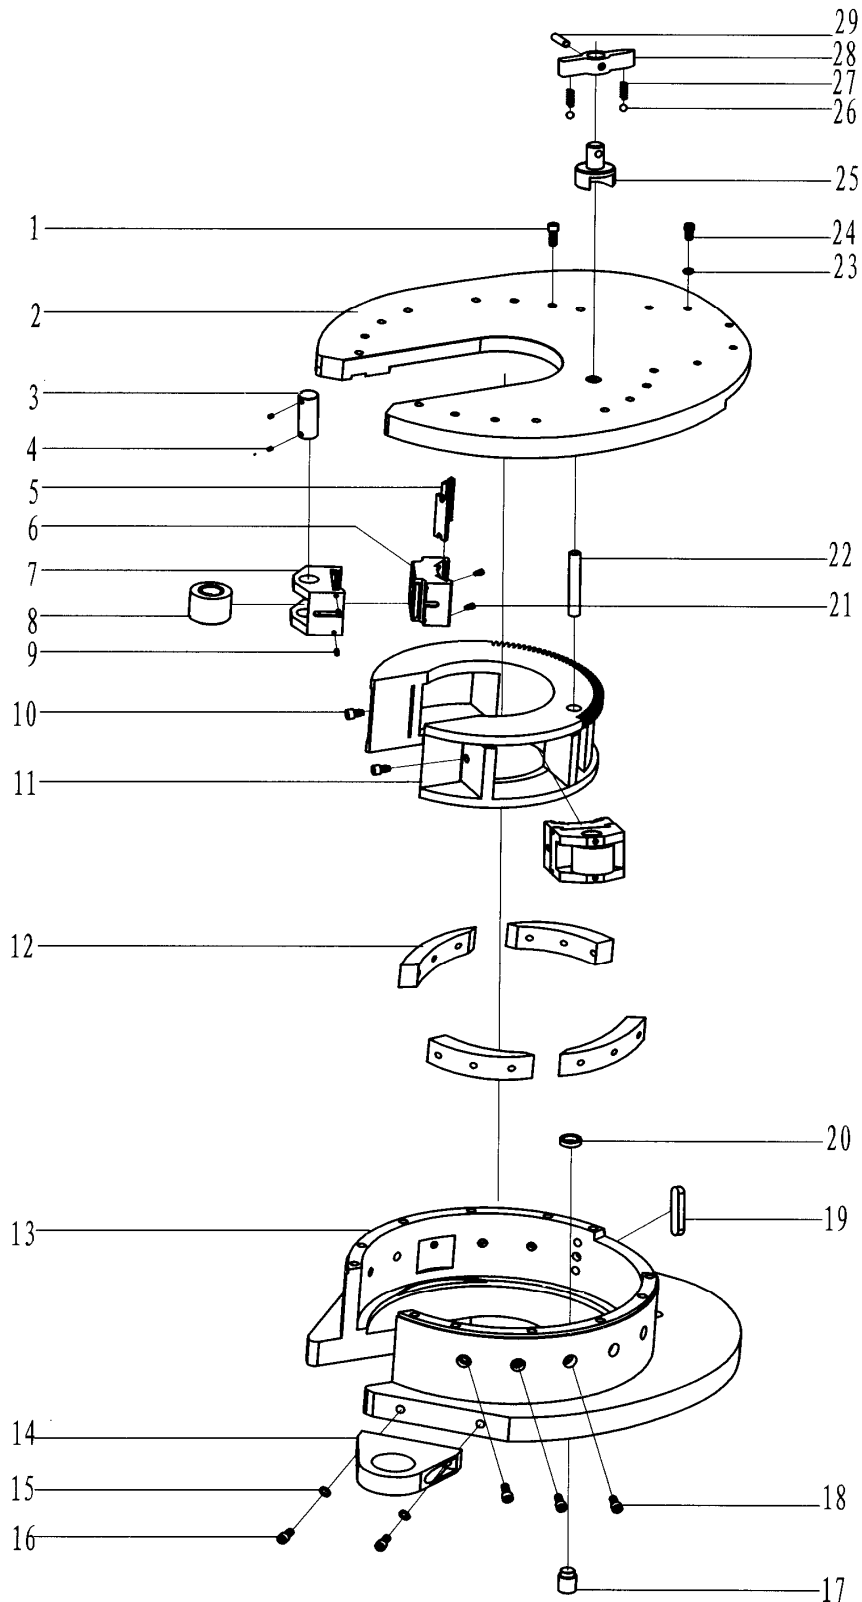

Fig10. Backup tong head assembly
7.3.1 Backup tong head assembly (Fig10. Table10)